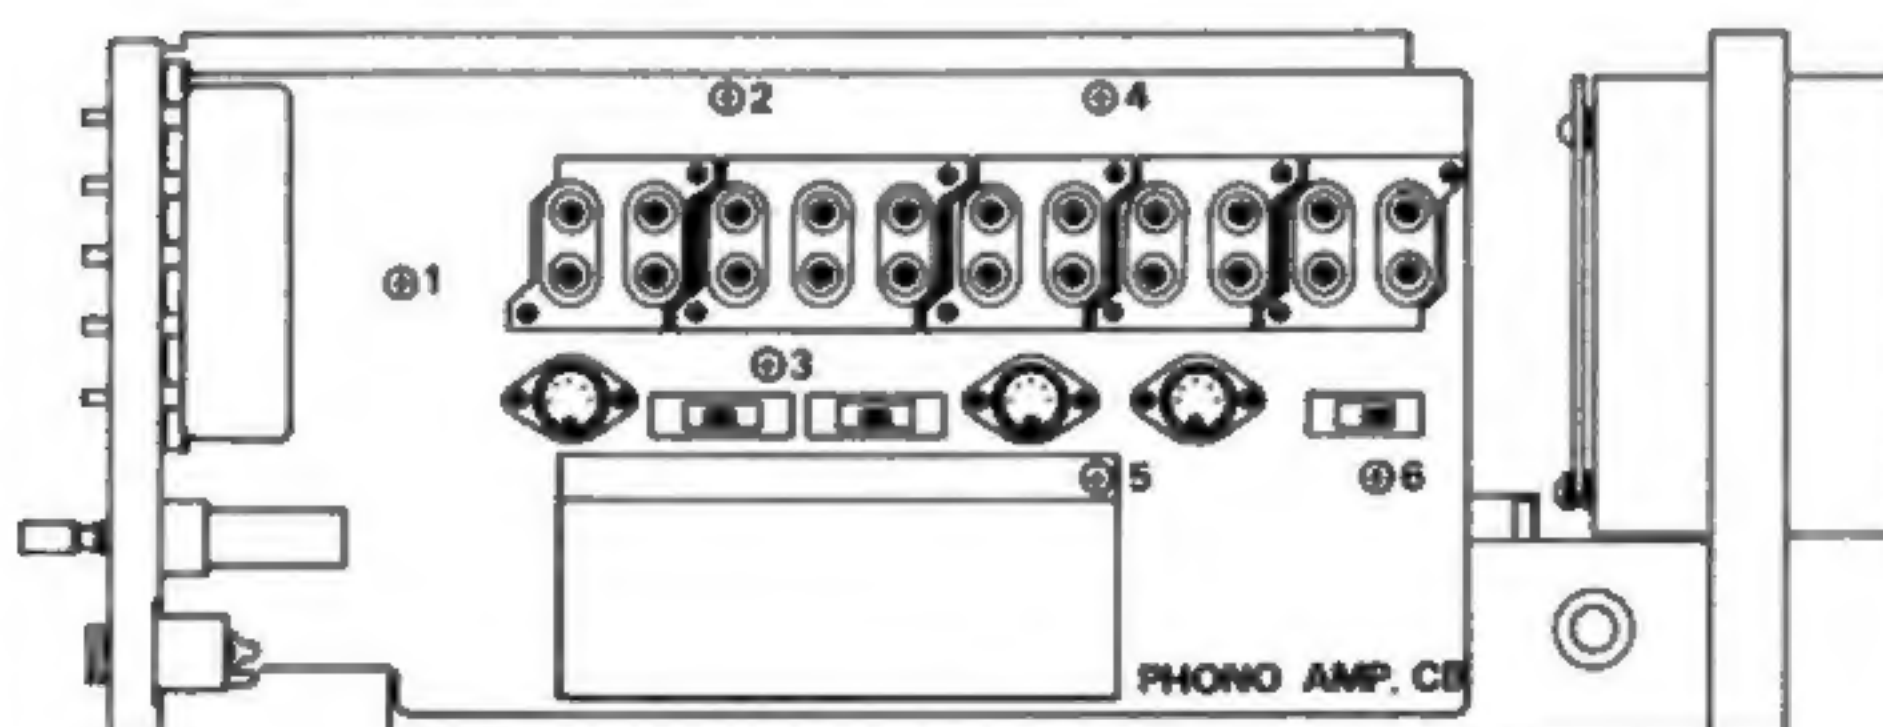

Fig. 1-6 RIGHT SIDE VIEW (2)
- Unscrew the 6 Phono Amp. PCB mounting screws (Fig. 1-6, screws 1-6).